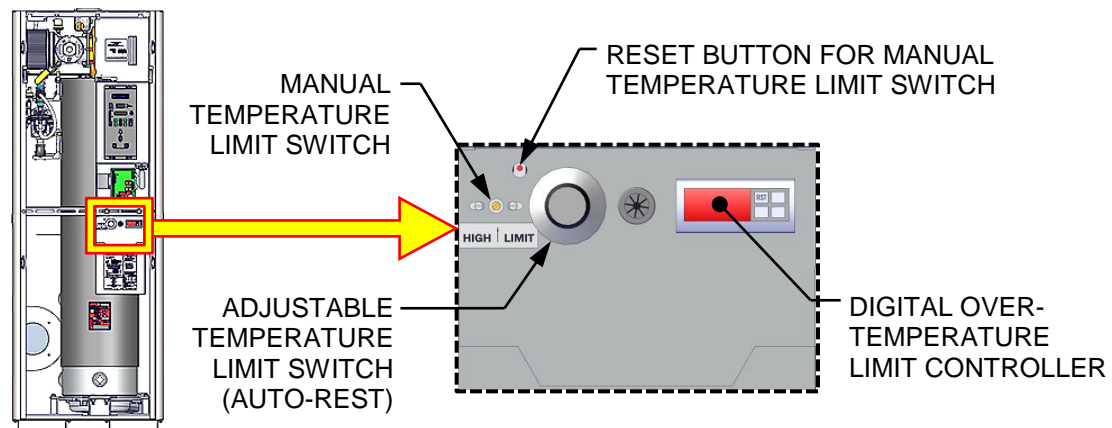

Figure 4-6a: BMK 750 & 1000 Over-Temperature Limit Switch Location
Dual Fuel models contain a fuel selector switch, located on the Temperature Limit panel. The location of this panel on BMK 1500 – 3000 units is shown in Figure 4-5, below; for the location of this panel on BMK 750 and 1000 units see Figure 4-6a in Section 4.7.
The unit contains three (3) types of over-temperature limit controls. These controls consist of a **Manual Reset** button, a rotary adjustable **Temperature Limit** switch and a digital **Over-Temperature Alarm** button. These controls are mounted on a plate as shown in Figure 4-6a and 4-6b. They can be accessed by opening the front panel door of the unit.
The **Manual Reset** button is not adjustable and is permanently fixed at 210°F (98.9°C). This button will shut down and lock out the boiler if the water temperature exceeds 210°F (98.9°C). Following an over-temperature condition, it must be manually reset by pressing the **Manual Reset** button shown in Figure 4-6a and 4-6b before the boiler can be restarted.
The digital **Over-Temperature Alarm** switch shown in Figure 4-6a, 4-6b and 4-7 is preset at the factory to 210°F (98.9°C) and should not be changed. If an over-temperature condition is detected, this switch automatically shuts down the boiler and sounds an audible alarm. If desired, the **Over-Temperature Alarm** can be checked or adjusted using the procedure in section 4.7.1.